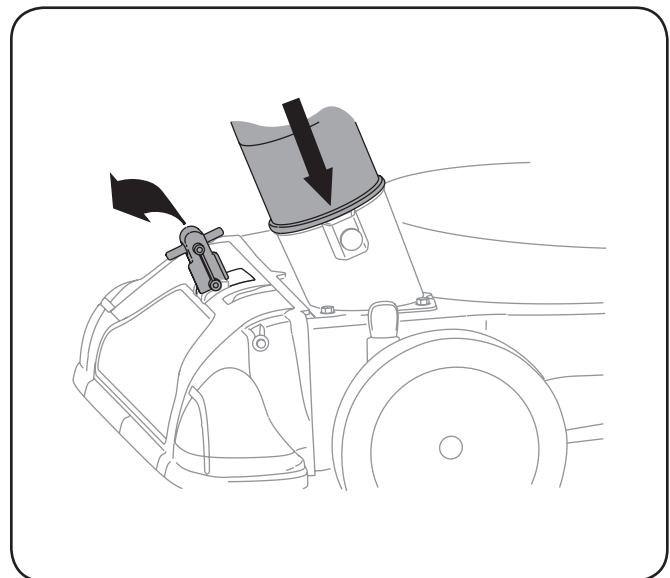

Figure 5-5
- Place nozzle/hose vac lever in the bottom position on the nozzle to redirect vacuum to the hose assembly. See Fig. 5-5.
- The spring loaded pin must be in the second hole of the hose adapter to operate the hose assembly. See Fig. 5-5.